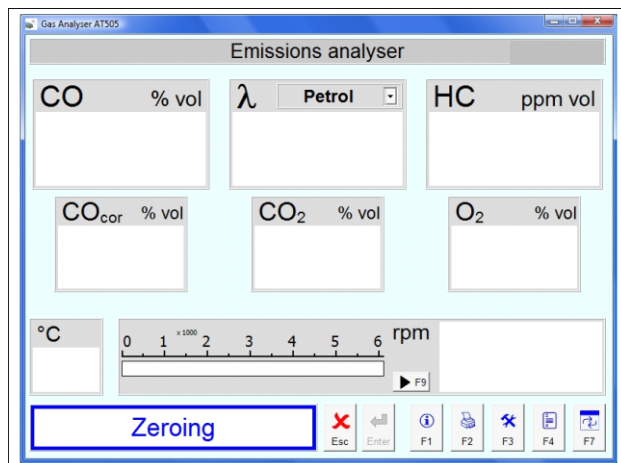
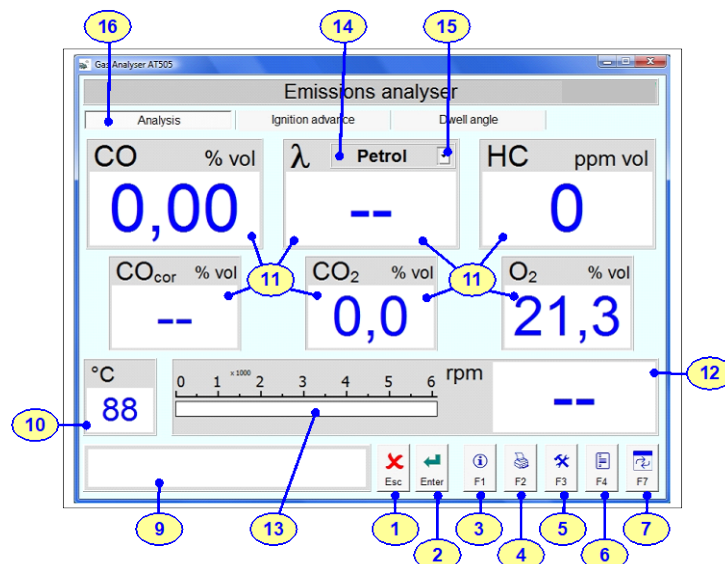

Fig. 43 – Optical bench reset
Fig. 44 – Initial Gas Analyser Software screen description (Gas measuring tab position 16 is only available with Multi-Diag Scope)
Description of the Fig. 43 and Fig. 44:
- 16 - **Tab:** Gas measuring (applies to Fig. 44)
This function is only available with another device – Multi-Diag Scope, Motortester or Minitester (optional extension). Otherwise no choices for switching into the measuring of ignition advance or dwell angle will be displayed (Fig. 44).
This function is only available in connection with another device – i.e. with Multi-Diag Scope, Motortester or Minitester (optional extension). Otherwise no choices for switching into the measuring of ignition advance or dwell angle will be displayed (Fig. 44).